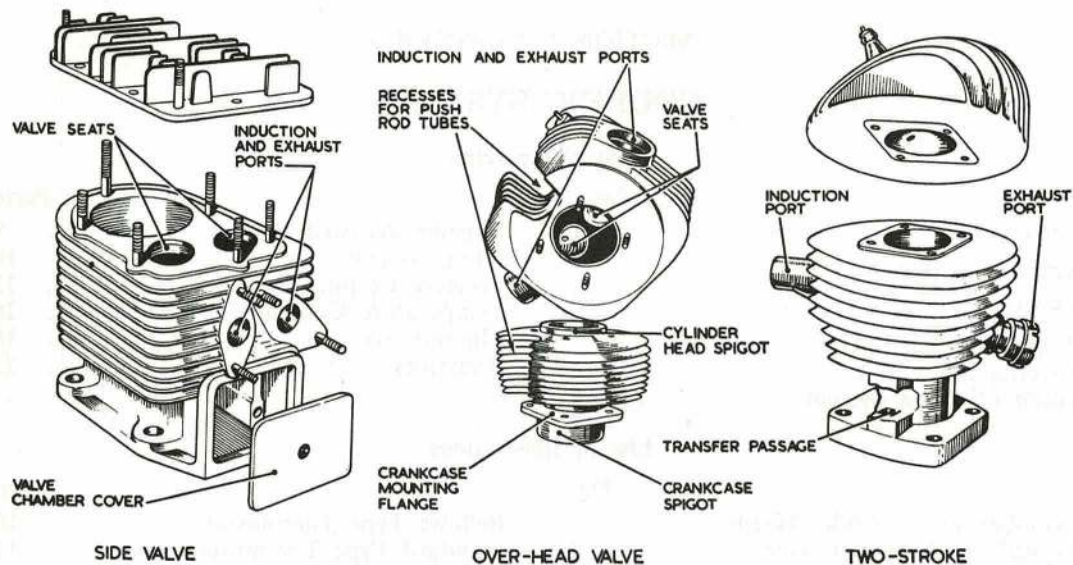

Fig. 1. CYLINDERS AND CYLINDER HEADS
4. Direct cooling by air relies upon a continuous flow of cool air passing over the engine all the time it is in operation. This method has several advantages over water cooling in that it is free from the trouble of freezing, simpler construction can be employed, and weight can be saved. The cylinders, cylinder heads, and sometimes the crankcases of air cooled engines, are suitably finned to provide a large volume of metal for absorbing the heat and a large surface area exposed to the stream of air for its dissipation (Fig. 1).